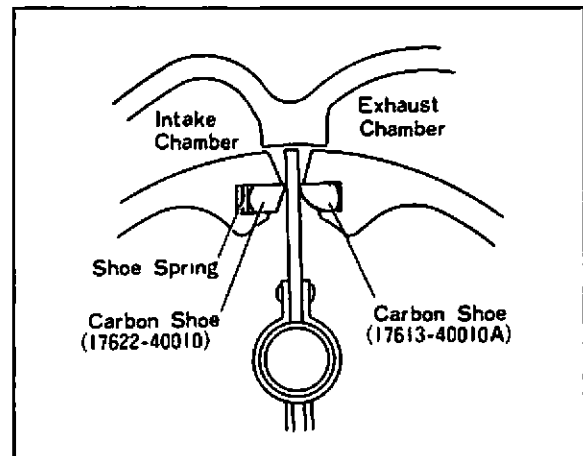

Fig. 6-15 Shoe Spring Installation
5. Install each carbon shoe as shown in Fig. 6-15. The higher one (17613-40010-A), which is colored white on its one end, should be installed to the opposite side of shoe spring and the lower one (17622-40010) to shoe spring side.
Note that the higher carbon shoe should be installed on its colored end to the pump housing cover side as shown in the Fig. 6-15.